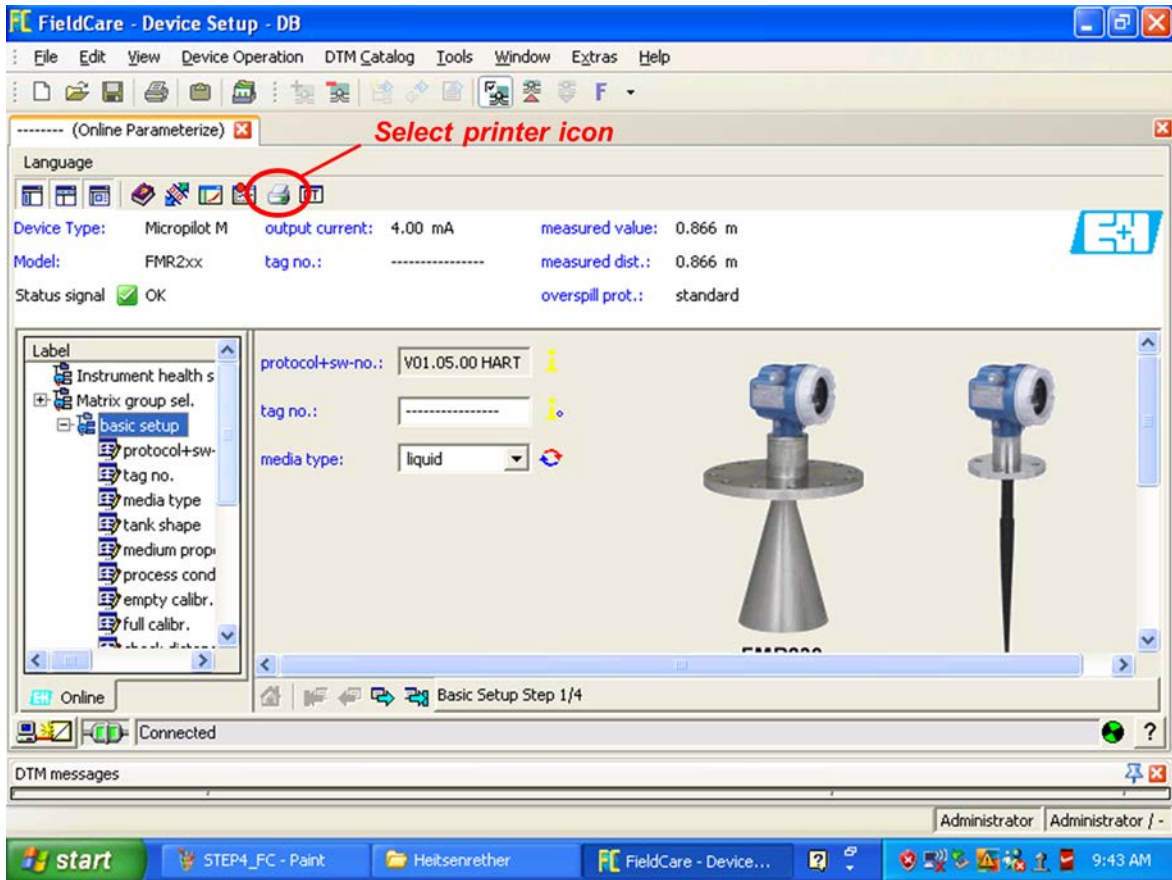

Figure 2-5. Step 1 of saving parameter settings to PDF file.
1. Select the printer icon on the **Device Setup** window marked in fig. 2-5.